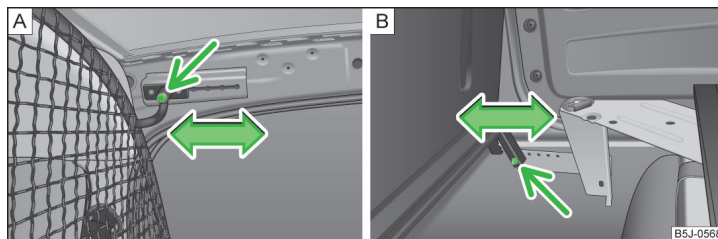

Fig. 96 Top/lower support of the safety partition
- › Undo and remove a bolt » Fig. 96 - [A] on either side in the upper body and one bolt » Fig. 96 - [B] in the lower area.